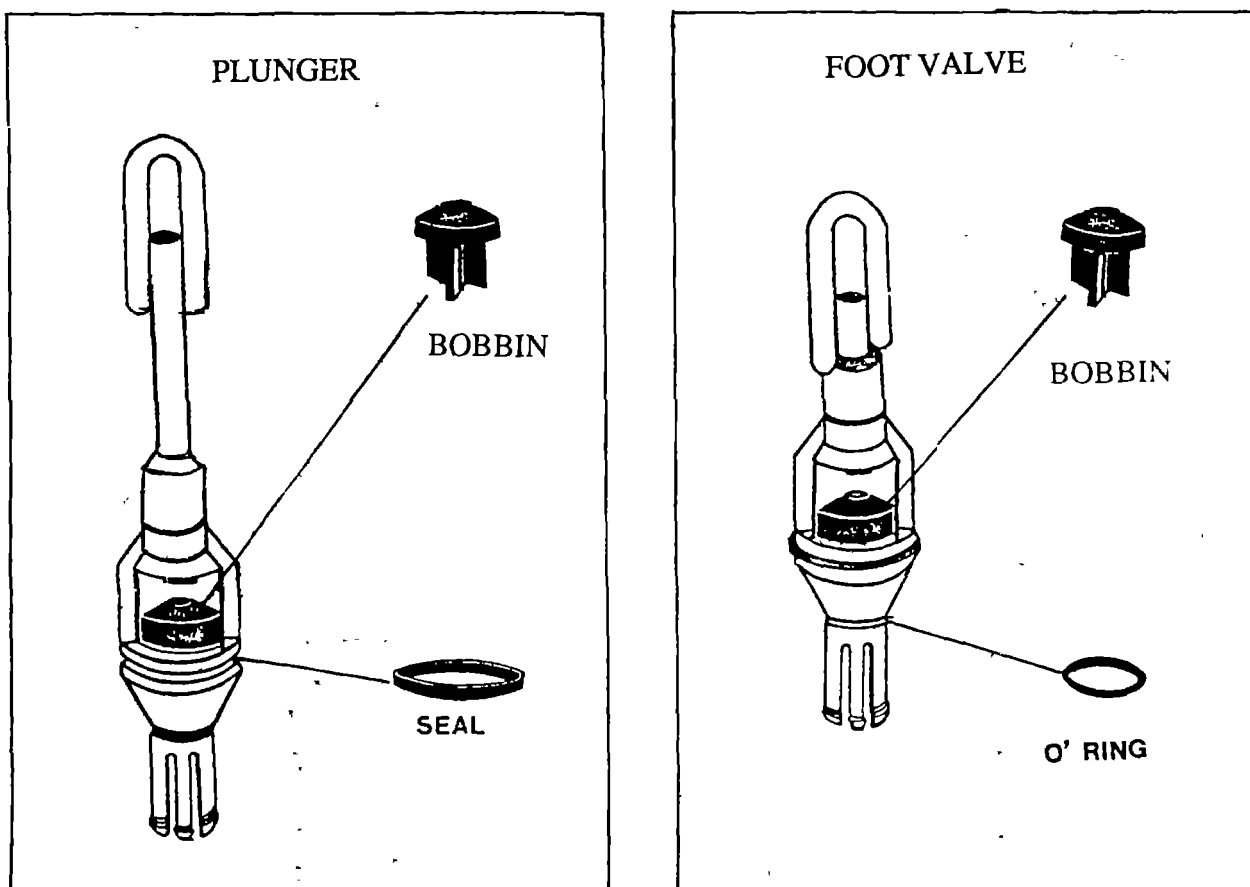

FIG 7: PLUNGER AND FOOTVALVE
- a. Plunger seal or rubber seal or U-seal. (See Fig 7 (i))
- the footvalve is able to carry out the above function because it has a bobbin/valve and an 'O' ring (see fig 7 (ii))